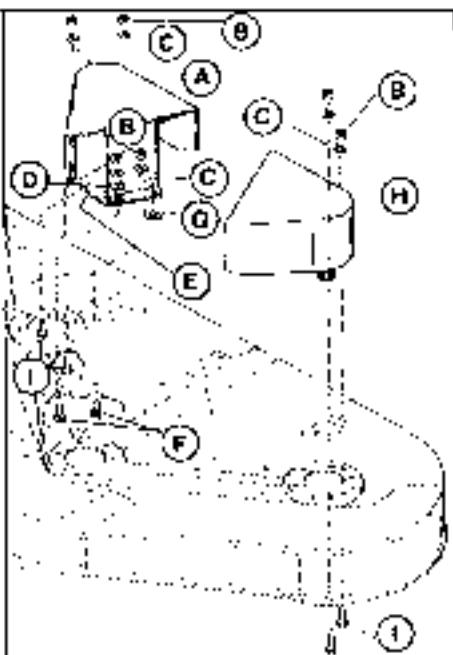

Figure 22. Arbor Covers - 48" Mowers
5. 48" mower only. Remove both arbor covers by removing two carriage bolts in front and two cap screws in back, See figure 22. Remove attaching hardware.
8. Reinstall the arbor covers and shown in figure 22 or 23.